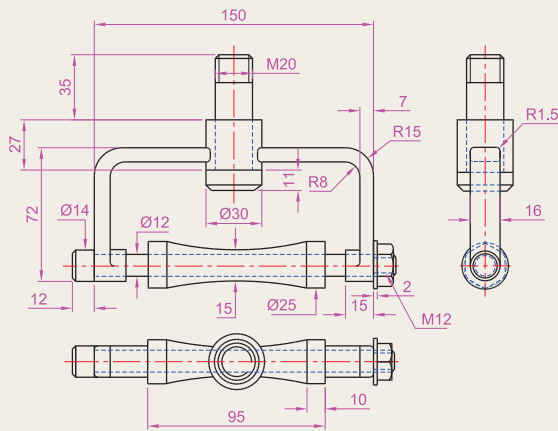
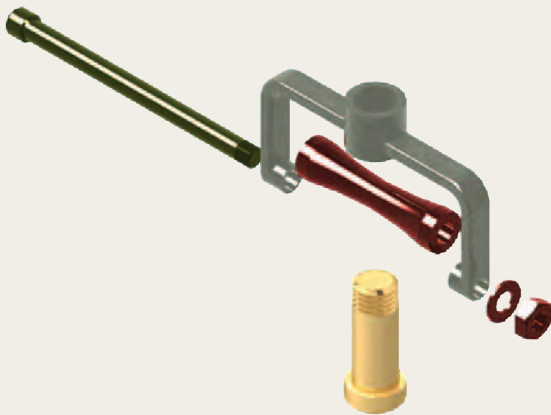

Fig. 18.22 Exercise 1 – orthographic projection
Fig. 18.23 Exercise 1 – rendered 3D model
1. Working to the shapes and dimensions as given in the orthographic projection of Fig. 18.22, construct the exploded 3D model as shown in Fig. 18.23. When the model has been constructed add suitable lighting and apply materials, followed by rendering.